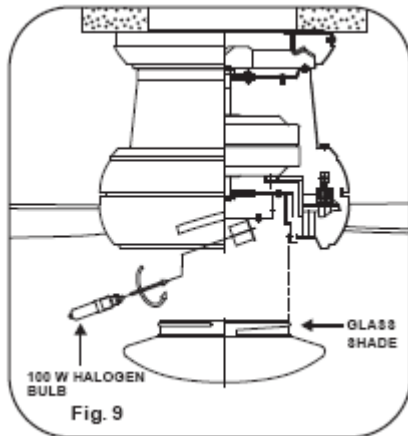

Fig. 9
Step 2. Raise glass shade up against bottom of fan housing and secure it to the fan by turning the glass shade clockwise until snug. **DO NOT OVERTIGHTEN.** (Fig. 9)